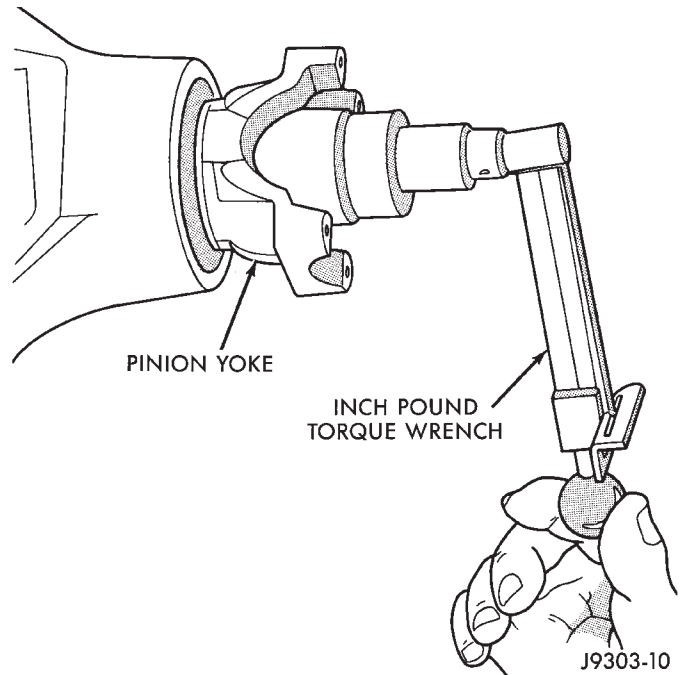

Fig. 17 Check Pinion Gear Rotation Torque—Typical
(9) Slowly tighten the nut in 6.8 N·m (5 ft. lbs.) increments until the rotating torque is achieved. Measure the rotating torque frequently to avoid over crushing the collapsible spacer (Fig. 17).
(10) Check rotating torque with an inch pound torque wrench (Fig. 17). The torque necessary to rotate the pinion gear should be: